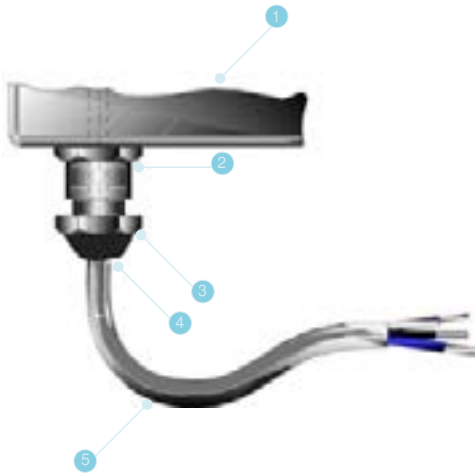

Figure. 4
- Place the cable in the motor terminal box and connect the control and regulation devices according to Figure 4. all these studies should be carried out carefully.